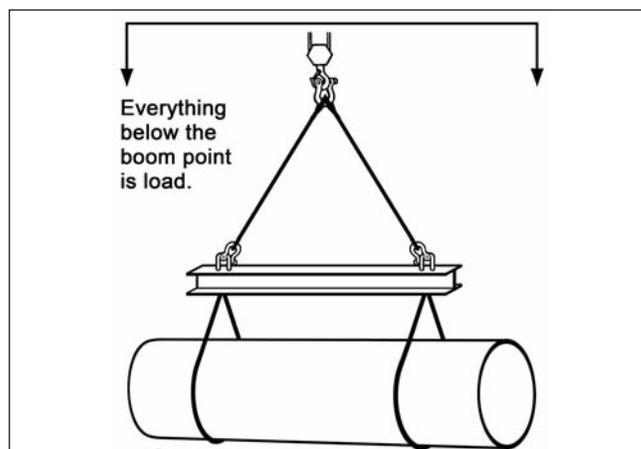

Figure 1
**Remember:** The weight of all rigging equipment must be included as part of the load to be lifted (Figure 1).